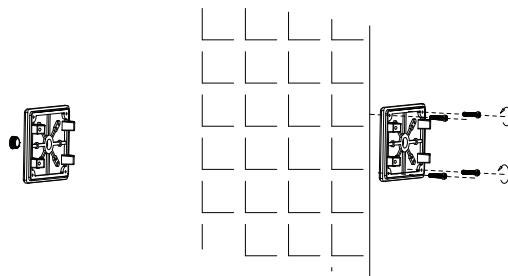

FIG. 17
3. Drill holes on the bracket back plate based on the junction box pattern used in the application. Fix the bracket back plate to the wall with four screws (see **FIG. 17**).